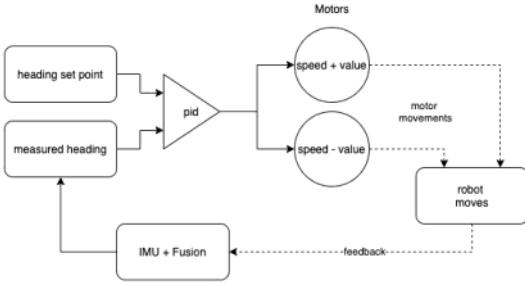

Figure 16.19 – Drive to heading behavior
*Figure 16.19* shows the flow of data. The left of the diagram starts with a measured heading, and a heading setpoint going into a PID—the error value will be the difference between the two. The measured heading has come from the **IMU + Fusion** algorithm. We use the PID output to drive the motors so that they move at a fixed speed plus or minus the value, so the robot will turn to reduce the error. The robot moving will feed back into the **IMU + Fusion** algorithm, looping through the PID.